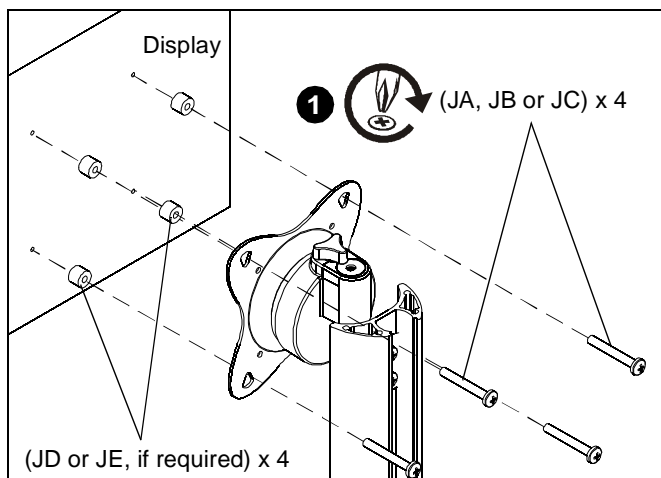

Figure 5
- Select correct screws, spacers (if necessary) from the hardware bag (J) and attach STS1 to back of display. (See Figure 5)